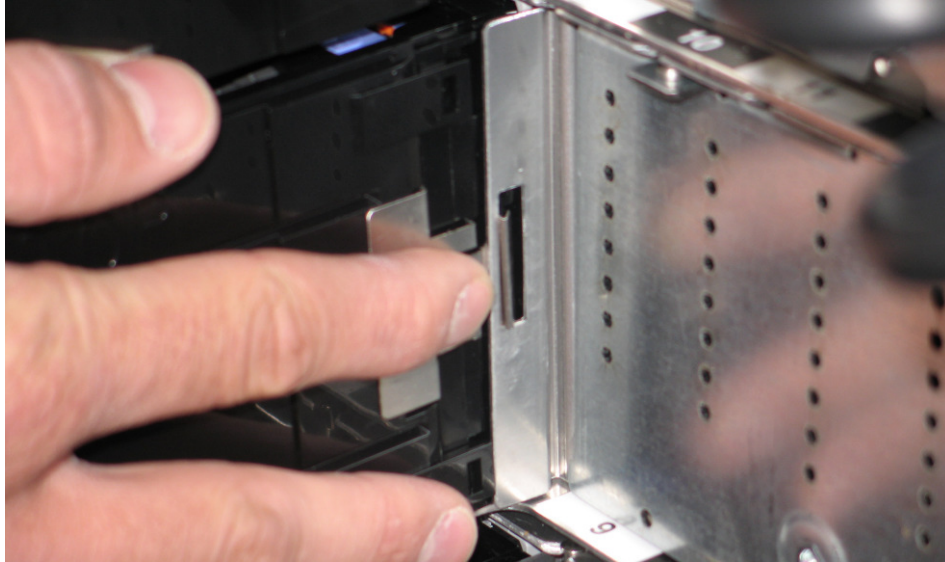

Figure 24 OBE Sidewall Assembly
STEP 36 Pull the OBE handle/sidewall assembly slightly outward to separate it from the CEC drawer. See Figure 24. Take care not to bump the frame faces of the fiber optic connectors against any surface, including body parts, to prevent contamination or damage on the fiber endfaces. **NOTE:** Do not remove more than one CEC drawer per OBE at a time - the OBE must be supported by at least 3 CEC drawers while it is installed in the system.